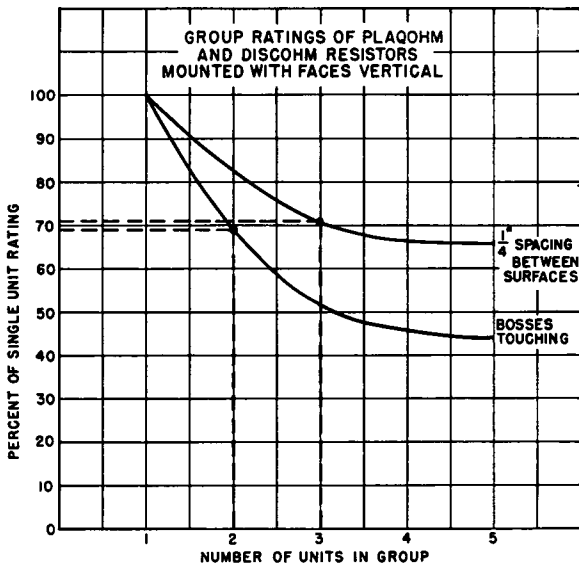

Figure 3-24. Group Ratings of Plaohm Resistors and Discohmm Resistors mounted with their faces vertical
b. *Group Ratings*—Curves of Figure 3-24 may be used to determine free-air ratings for groups of Plaohm resistors mounted vertically. For example, three 50-watt Plaohm resistors with $\frac{1}{4}$ inch spacing between adjacent surfaces will have their rating reduced approximately 29 percent, or to $3 \times 50 \times .71 = 106.5$ watts. If two 150-watt Plaohm resistors are touching each other, that is, mounted side by side without spacing, the rating is reduced 31 percent, or to $2 \times 150 \times .69 = 207$ watts.
The curve given in Figure 3-24 for Plaohm resistors can be used as a guide for derating groups of Discohms since their characteristics are similar. Refer to Page 81 for application and performance data.